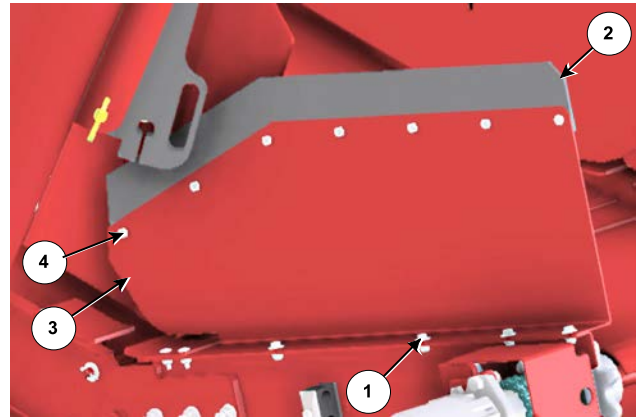

Figure 8: Attach the Front Shield and Spill Guard
12. Attach the front shield and rubber spill guard (3) to the conveyor, see *Figure 8*.
- Fasten the shield to the conveyor with 4 of 5/16" x 3/4" hex bolts (1), flatwashers and flange locknuts.
- Attach the rubber spill guard (2) to the shield with 7 of 5/16" x 3/4" hex bolts (4) and flange locknuts.